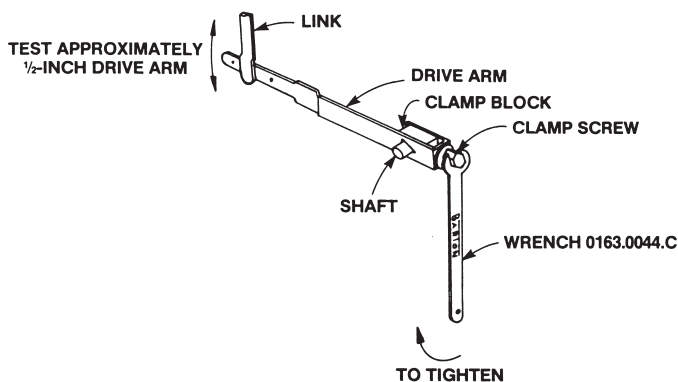

Figure 3.3—Linkage adjustments
2. Hold the drive arm at the clamp block by hand or with a 1/4-inch open wrench (Figure 3.3). If a wrench is used, place it between the torque tube shaft and the lock screw, taking care not to damage the torque tube shaft or bearing. (In the case of the range arm lock screw, place the wrench between the shaft and lock screw.)